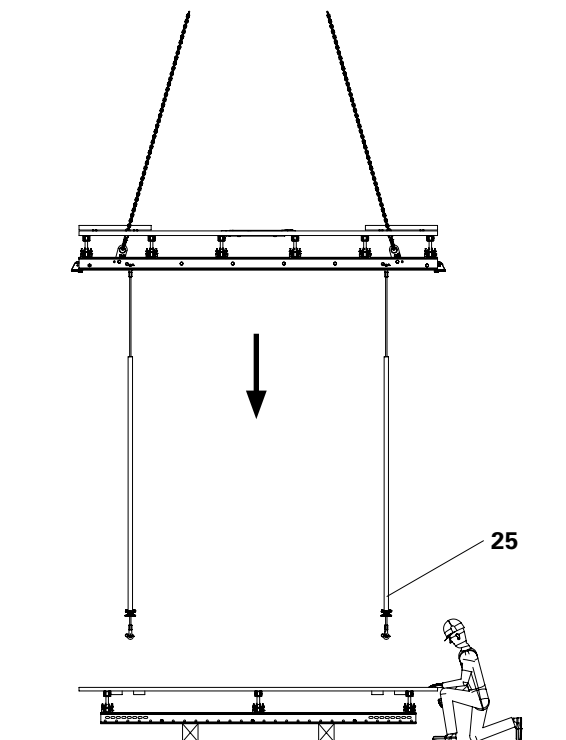

Fig. C4.04
5. Bind the Gravity Pivot Plate upwards with binding wire and fix it to the outer girder. (Fig. C4.04)